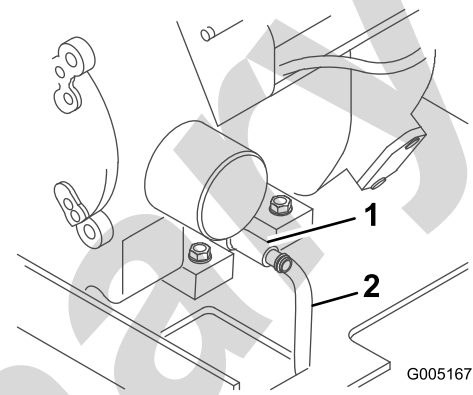

Figure 24
- Place one end of a hose on the drain valve and the other end in a pan (Figure 24).
- Open the drain valve by turning it counterclockwise, pulling out as you turn it (Figure 24).